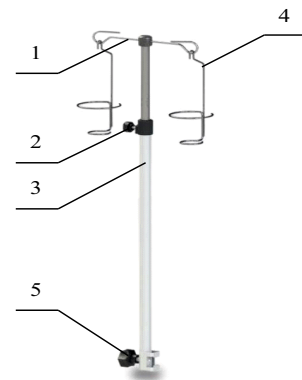

Figure 2. Infusion pole.
2. **Infusion pole** (infusion stand) (Figure 2). Made of stainless steel, adjustable in height, equipped with two hooks 1 and two standard bottle holders 4. Equipped with a built-in mounting clamp 5 for mounting on the guide rails of the table
The pole height is adjusted manually using lock 2 (Figure 2). Adjust the height of the pole, and then clamp the lock in the adjusted position.